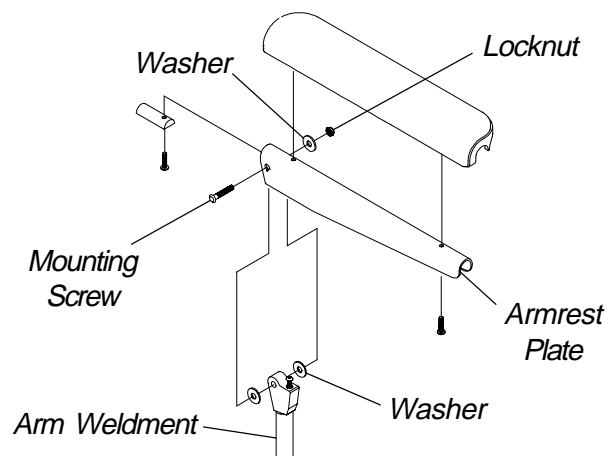

FIGURE 2 - REPLACING CAPTAINS VAN SEAT ARMREST PLATE
REPLACING CAPTAINS VAN SEAT ARMREST PLATE (FIGURE 2)
1. If necessary, remove the three (3) mounting screws, spacers and locknuts that secure the joystick mounting bracket to the armrest plate.
4. Position the **NEW** armrest plate on the armrest weldment and secure with the mounting screw, washers, and locknut. Refer to FIGURE 2 for correct hardware orientation.
6. If necessary, reinstall the three (3) mounting screws, spacers and locknuts that secure the joystick mounting bracket to the armrest plate.